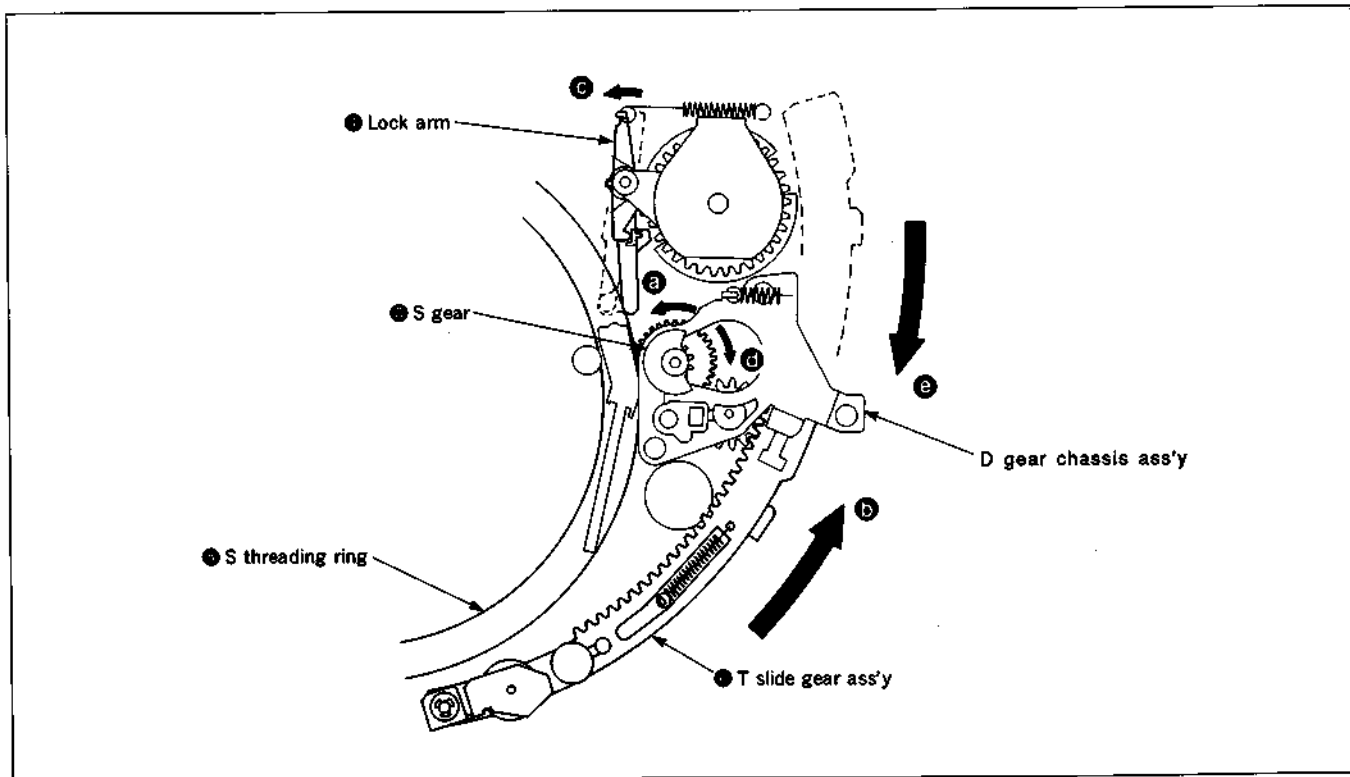

Fig. 7-5. How to thread/unthread tape manually (2)-b
- 3) As shown in Fig. 7-5. rotate the S gear ③ of the D gear ass'y in the direction of the arrow ① until tape threading is complete (the S threading ring ④ is locked by the lock arm ⑤). Rotate the T slide gear ass'y ⑥ in the direction of the arrow ② until it is butted.